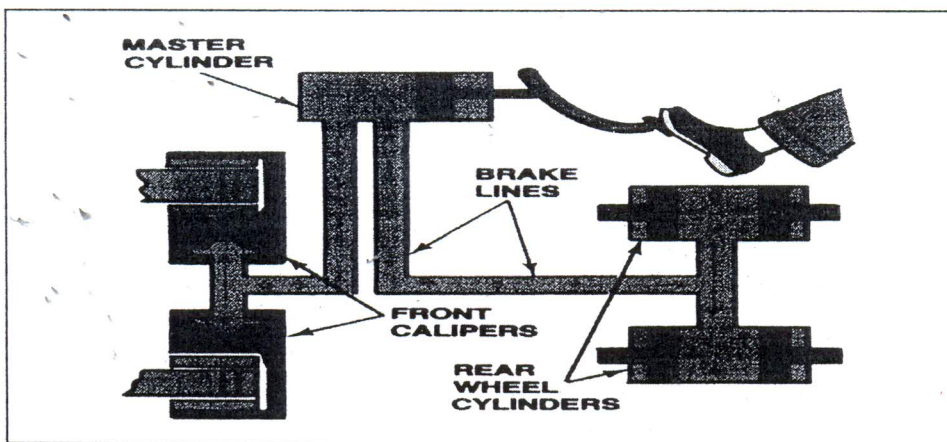

Figure 2: Brake system Layout
- d) A driver applies 390 N of force to a brake pedal that is connected to the master cylinder through a brake pedal lever having 5:1 ratio. The master cylinder piston has a diameter of 20mm. Refer to the Figure 2 below.